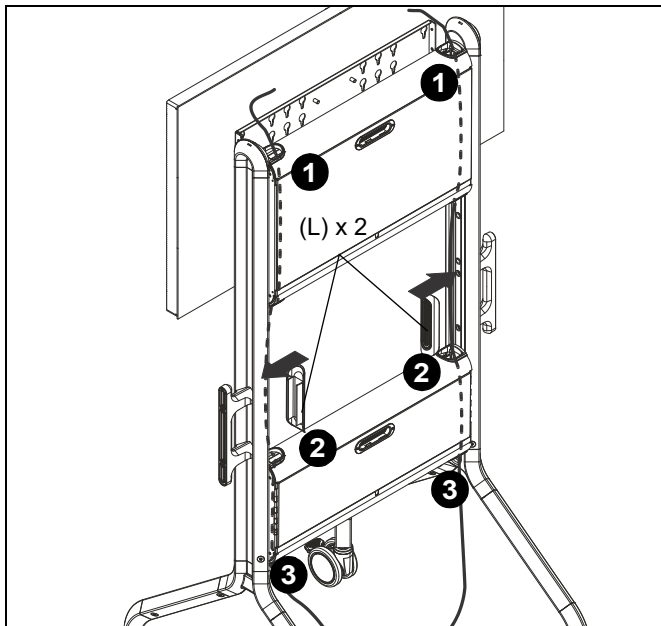

Figure 14
1. Route cables from display through top holes on cart as desired. (See Figure 14)
2. Use cable covers (L) to secure cables to side of cart as desired. (See Figure 14)
3. Route cables through lower holes on cart as desired. (See Figure 14)